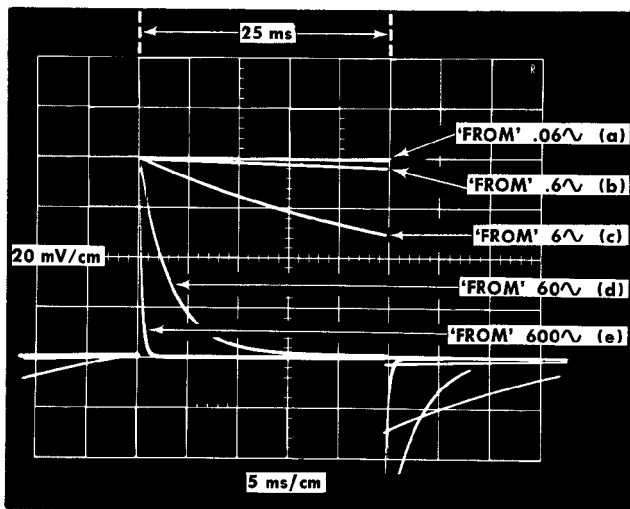

Fig. 5-6. Multiple exposure photograph showing decay characteristics for FREQ RESPONSE 'FROM' switch positions .06 \sim through 600 \sim .
Requirement-Display of decays as shown in Fig. 5-6.
h. Adjust the Type 106 Square Wave Generator + Transition Amplitude for approximately 4 cm of vertical display. See Fig. 5-6, waveform A.
i. Adjust the Type 106 Square Wave Generator Repetition Rate Multiplier for 5 cm of horizontal display. See Fig. 5-6, waveform A.
k. Observe the displayed waveform. Check for similarity to waveform B in Fig. 5-6.
l. Switch through the FREQ RESPONSE FROM switch position 6 \sim , 60 \sim and 600 \sim and check the displayed waveform against waveforms C, D and E, respectively, Fig. 5-6, for low frequency response characteristics. Use the Type 2A61 POSITION control to position the start of the transition to the same point on the graticule for each step.